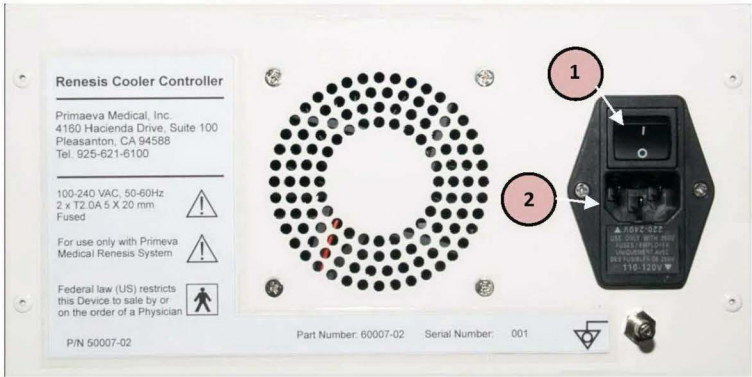

FIGURE 9.2: REAR PANEL – COOLER CONTROLLER
Connect the power cable (provided) to the connector on the rear panel (Item 2 as shown in Figure 9.2).
Power Supply AC Power connector Note: Check Specifications-Section 11 for the appropriate input power specifications. [Item 2 in Figure 9.2]
POWER 	Power On/Off Switch Switches the supply power for the Cooler Controller On/Off. [Item 1 in Figure 9.2]
3. Turn on power on the Cooler Controller (Item 2 in Figure 9.2).